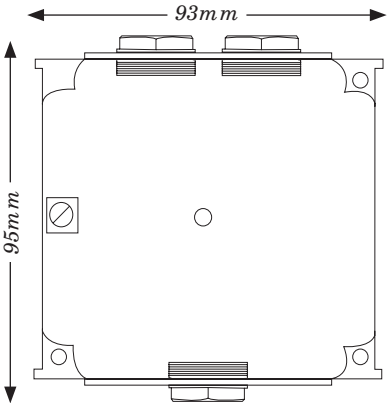

Fig 1 Back box
1. Fit the backbox to a flat surface using the three fixing holes and screws provided. The cable entry holes should be in the vertical plane. The backbox can be mounted with either the single or double entry holes at the top. (Fig 1).